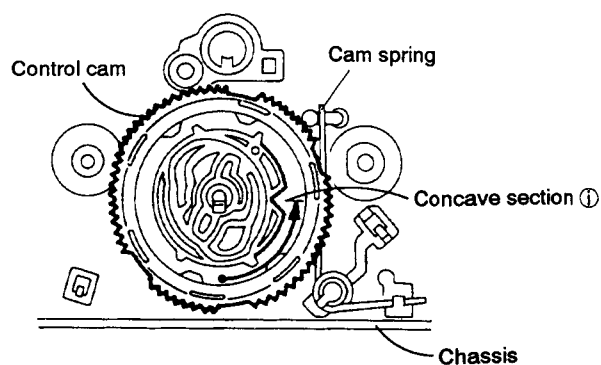

Fig. 5-51
4. For making it possible to mount the FR arm assembly, align the concave section ① of the control cam to the position as shown in Fig. 5-51 while turning the control cam.